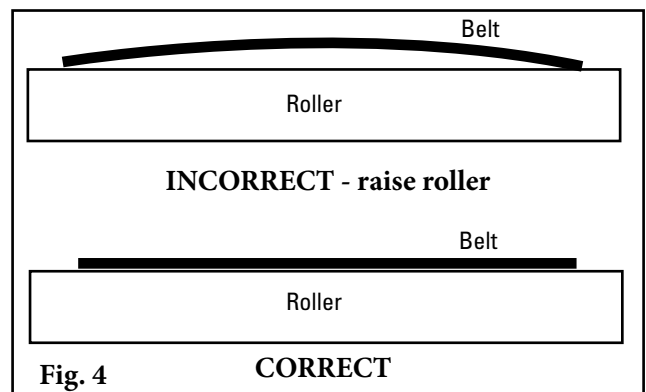

Fig. 4
4. **Lower the belt.** Ensure belt completely contacts roller. Raise brackets if there is not good contact (Fig. 4). Tighten all bolts.
4. Adjust sensor rollers so they are 19mm (3/4") from the belt on each side. Adjust by turning the "C" bolts (Fig. 4).